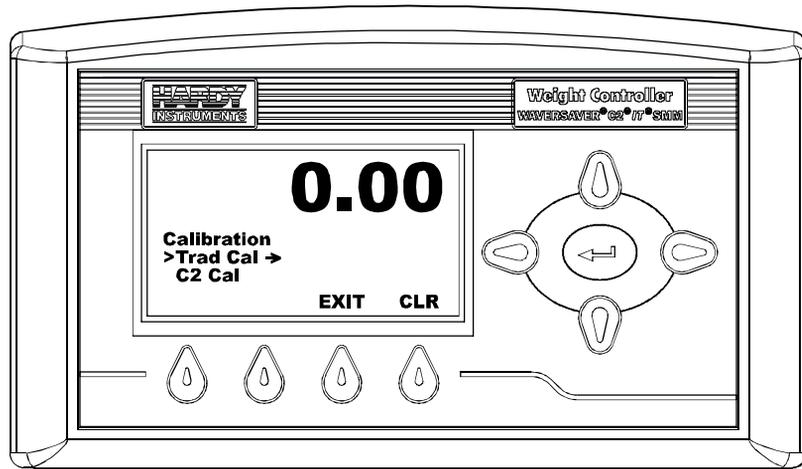

FIG. 310 CALIBRATION MENU/SELECTING TRAD CAL
Step 4. Press the Down Arrow button until the cursor is in front of “Trad Cal”. (See Fig. 310)